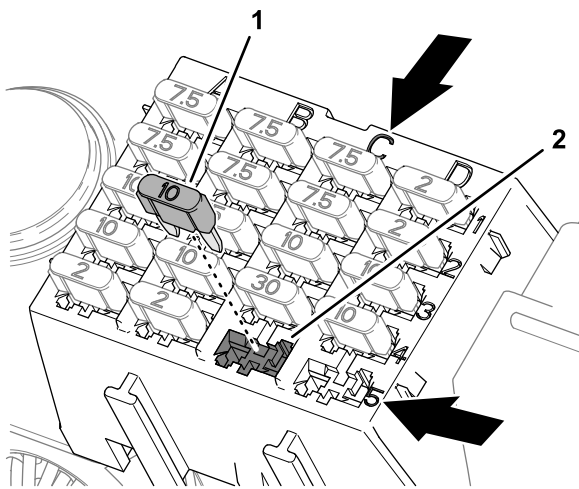

Figure 11
3. Insert the fuse (10 A) into fuse-block socket C5 (Figure 11).